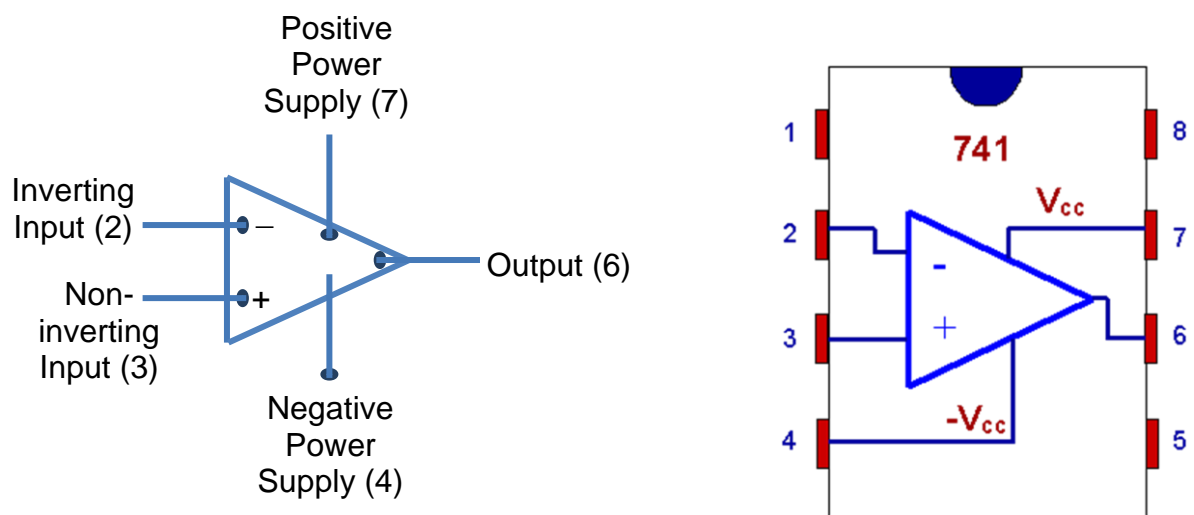
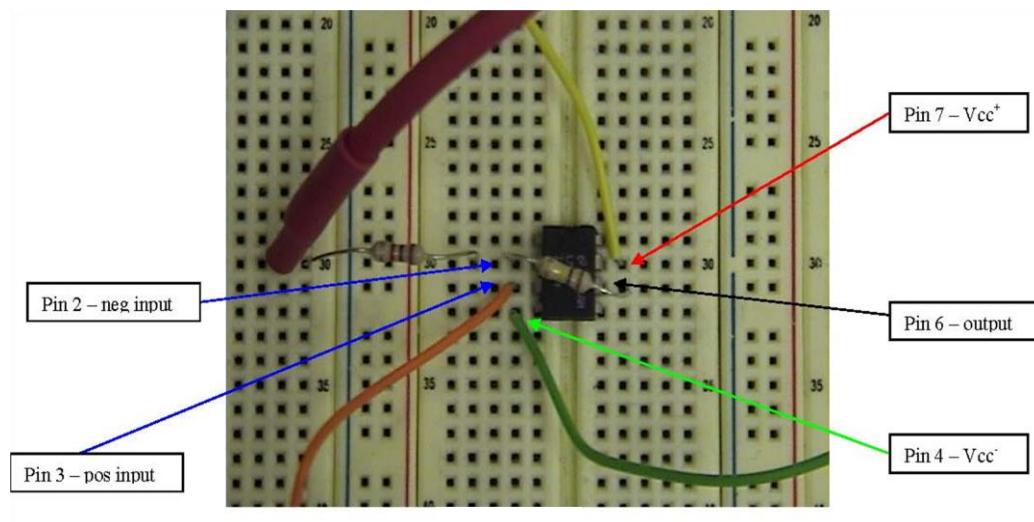

Figure 4.2 – Schematic diagram and pin configuration for the LM741CN Op-Amp.
Figure 4.3 – Op-Amp connections on a breadboard.
Operational Amplifiers: As discussed in class, a typical op-amp has five connections as shown in Figure 4.2: Two inputs, two power supplies, and one output. In the lab, we will use the LM741CN op-amp which comes in an eight pin DIP (dual in-line package) integrated circuit (IC). The pin connections for this particular op-amp are also shown in Figure 4.2. Note that there is a small semi-circular notch on one end of the IC so that you can tell which end is pins 1-4 and which end is pins 5-8. The size and spacing of the pins on the IC have been carefully constructed so that the IC will plug nicely into your breadboard as shown in Figure 4.3. Given the positioning of the two resistors in Figure